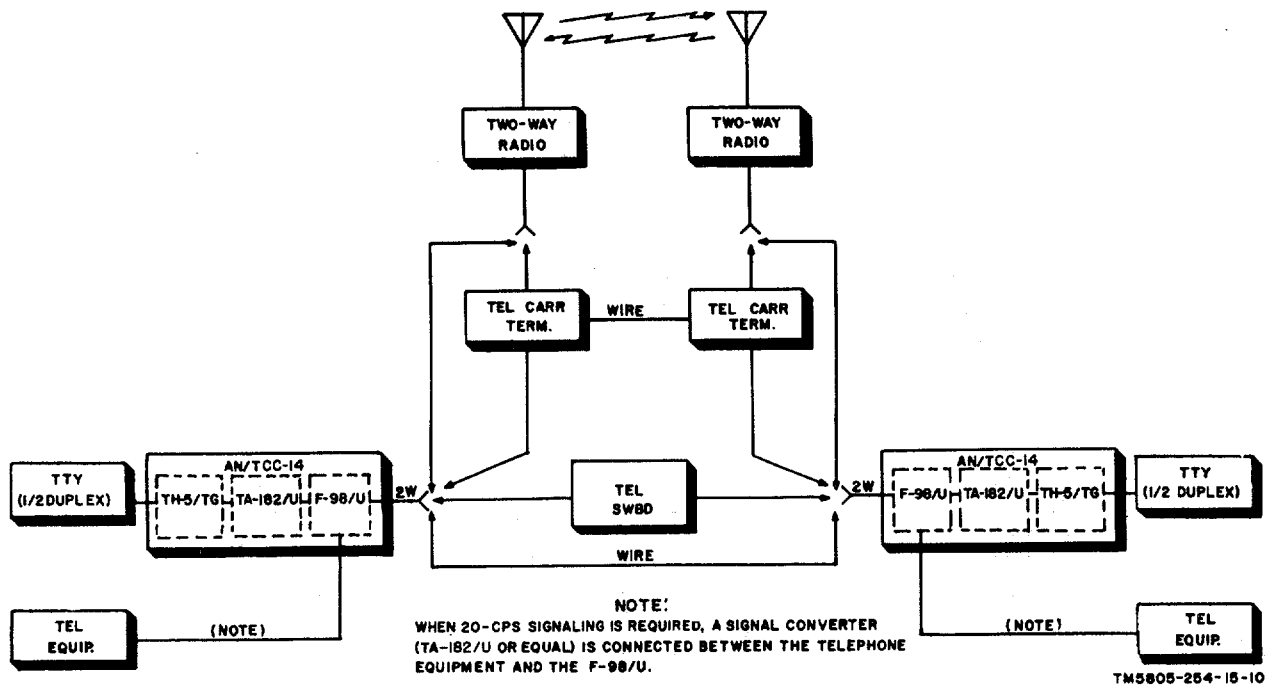

Figure 3. Typical system application of Terminal, Telegraph-Telephone AN/TCC-14.
a. *Purpose.* Terminal, Telegraph-Telephone AN/TCC-14 (fig. 3) is a terminal for teletypewriter and telephone equipment and provides for simultaneous transmission of speech signals with voice-frequency (f) telegraph and vf ringing signals (speech-plus-duplex operation).
- (1) *Terminal, Telegraph TH-5/TG.* Neutral, half-duplex direct current (dc) signals sent from the teletypewriter are converted to vf telegraph signals in the TH-5/TG. Vf telegraph signals received by the TH-5/TG are converted to neutral, half-duplex dc signals. Twenty-cycle-per-second (cps) ringing is provided for signaling and for breaking in on teletypewriter transmission at the distant station during half-duplex operation.
- (2) *Converter, Telegraph-Telephone Signal TA-182/U.* The TA-182/U converts a 20-cps ringing signal transmitted from a TH-5/TG (or telephone equipment) to a vf ringing signal. A vf ringing signal received by the TA-182/U is converted to a 20-cps signal.
- (3) *Filter Assembly, Electrical F-98/U.* The filter provides for the insertion of the vf telegraph signals ((1) above) among the speech signals from telephone equipment. Thus, simultaneous transmission of vf telegraph and -
b. *Use.* The AN/TCC-14 is used in any two-wire communication system (fig. 3) capable of transmitting speech signals (0-3,000 cps). For configurations in which the components of the AN/TCC-14 may be used, refer to paragraph 7.
The individual characteristics of the TH-5/TG and the TA-182/U are covered in their respective technical manuals (appx). The technical characteristics of the AN/TCC-14 (connected as shown in figure 3) are covered in a below; the technical characteristics of the F-98/U are covered in b below.
Normally, the AN/TCC-14 (fig. 3) is installed near the equipment to which it is connected and mounted in racks or stacked at the equipment site. For special installation procedures concerning the prevention of home copy in full-duplex operation with the TH-5/TO, refer to TM 11-5805-246-20.